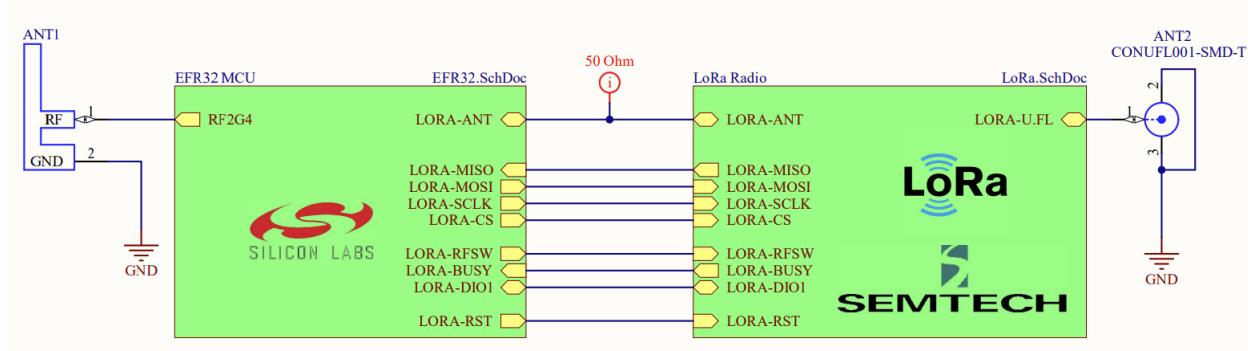

Figure 2: Functional diagram
- Figure 2: Functional diagram